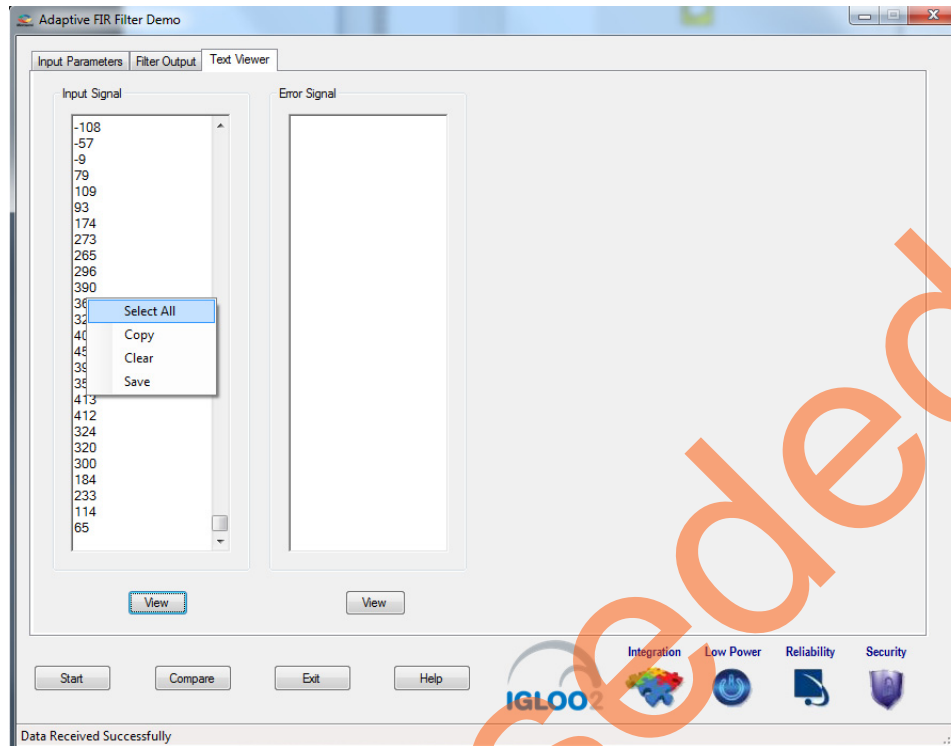

Figure 27 • Text Viewer - Input Signal Save Option
15. To save the Input Signal as a text file, right-click on the Input Signal window. The Input Signal window displays different options as shown in Figure 27 on page 30.